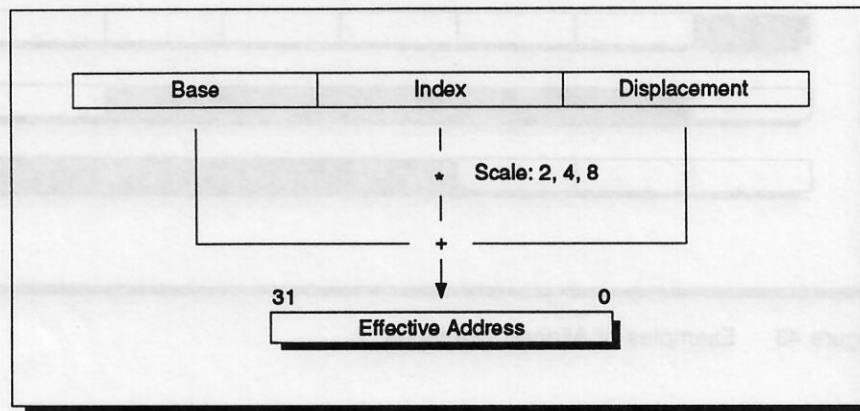

Figure 44 Complex Address Calculation (Protected Mode)
- **Complex Addresses**—A base, index, displacement, and scale factor are used to generate these addresses. Figure 44 shows the basic components of effective addresses. The encoding of instructions specifies how effective addresses are to be calculated. The details of this addressing modes are complex and vary with the address size; see the commercially available literature that describes them.